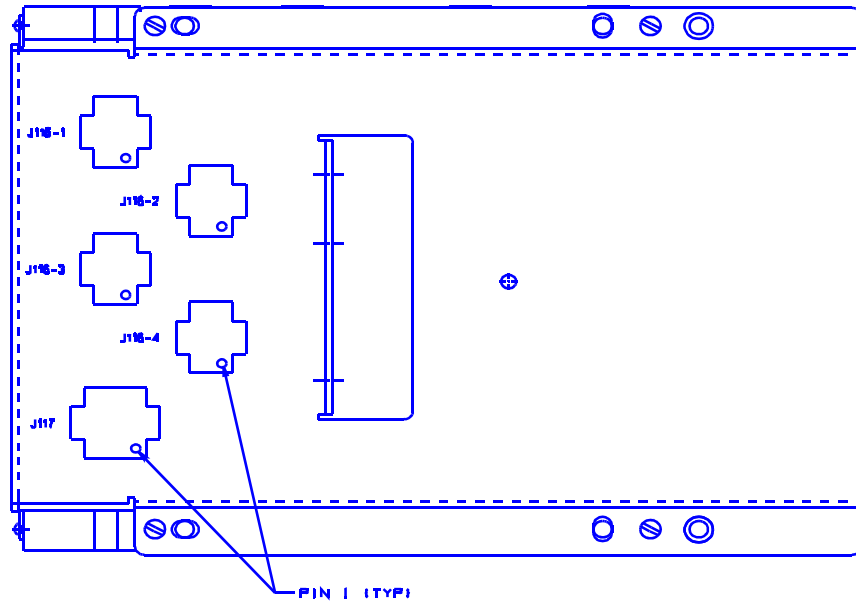
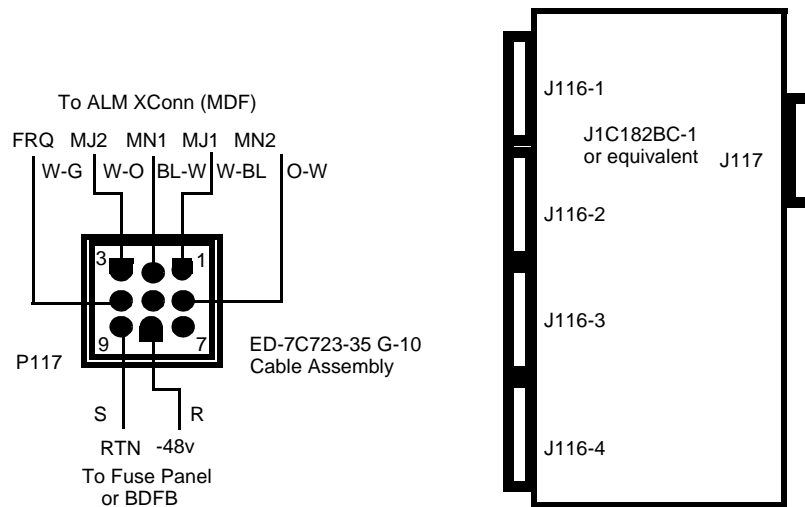

Figure 3-5. Right Side of the J1C182BC-1, List 2 Remote Terminal Ring Shelf
Figure 3-9. J1C182BC-1 Power Cabling
4. Connect the P116 connector end of the ED-7C818-32, Group 19() cable assembly to the J116-() connector on the ring shelf specified in the Work Order. Refer to Figures 3-5, 3-6, and 3-7 for shelf connector location information. The J1C182BC-1, List 3 shelf connectors are dangling cables. Ring shelf connectors J116-1 and J116-2 are connected to the GROUP 1 ringing supply voltage, while connectors J116-3 and J116-4 are connected to the GROUP 2 ringing supply voltage.
8. Connect the P116 connector end of the ED-7C723-35, Group 9 cable assembly to the J116-() connector on the ring shelf specified in the Work Order. Refer to Figures 3-5, 3-6, and 3-8 for shelf connector location information. The J1C182BC-1, List 3 shelf connectors are dangling cables.
16. Connect the P117 connector of the ED-7C723-35, Group 10 cable assembly to the J117 connector on the J1C182BC-1 remote terminal ring shelf. See Figures 3-5 and 3-6 for J117 connector location. The J1C182BC-1, List 3 shelf connectors are dangling cables. Figure 3-9 contains pin connector information for the J1C182BC-1 power cable (ED-7C723-35, Group 10 cable assembly).
17. Connect the power leads (pins 8 and 9) of the ED-7C723-35, Group 10 cable assembly to a -48 V fuse panel or to the BDFB. See Figure 3-9 and Table 3-2.
18. Route the alarm leads of the ED-7C723-35, Group 10 cable assembly to the miscellaneous alarm pair panel. See Figure 3-9 and Table 3-2. Cross-connect as required.